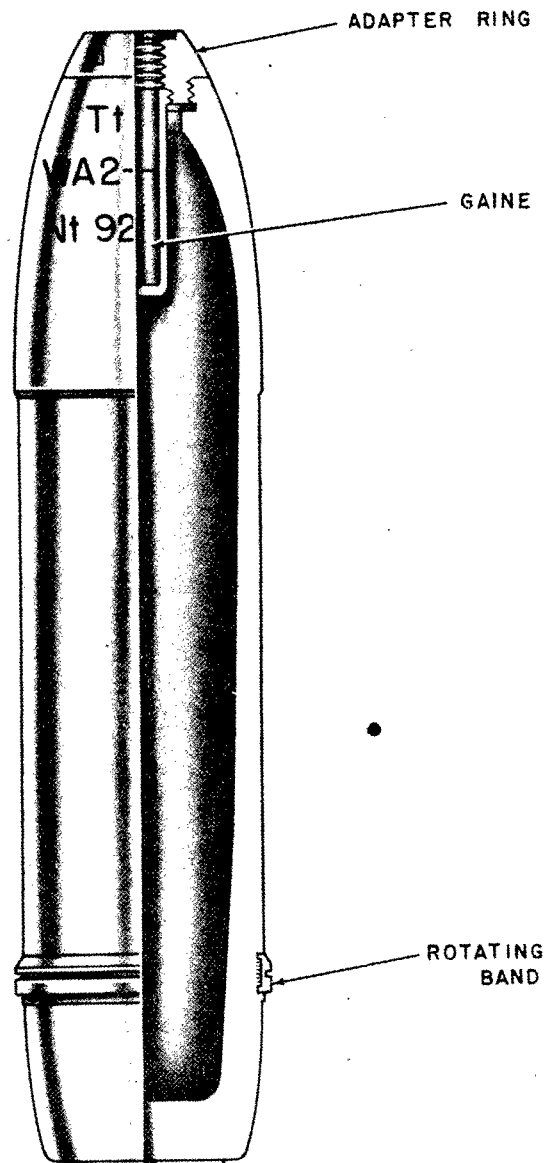

Figure 447—H. E. Projectile for 100-mm Howitzer, 10-cm Stg. Gr. (p)
**GERMAN NOMENCLATURE:** 10-cm Stg. Gr. (p). (See fig. 447.)